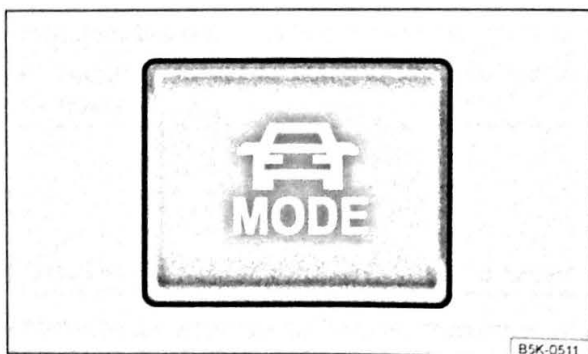

Fig. 177 In the lower section of the centre console: Driving Mode Selection button
- Press the Driving Mode Selection button  ⇒ Fig. 177. The Driving Mode Selection menu appears in the infotainment system display. The active driving mode is selected.
- Press the Driving Mode Selection button  ⇒ Fig. 177 and touch the function button for the selected driving mode in the infotainment system display.